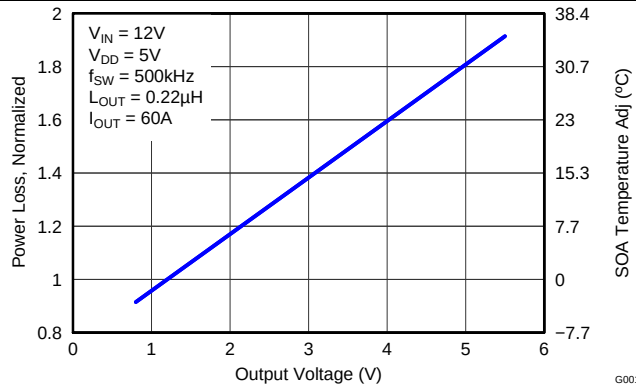

Figure 7. Normalized Power Loss vs Output Voltage
- Normalized Power Loss for output voltage  $\approx 1.06$  (Figure 7)
- SOA adjustment for output voltage  $\approx -0.8^{\circ}\text{C}$  (Figure 7)